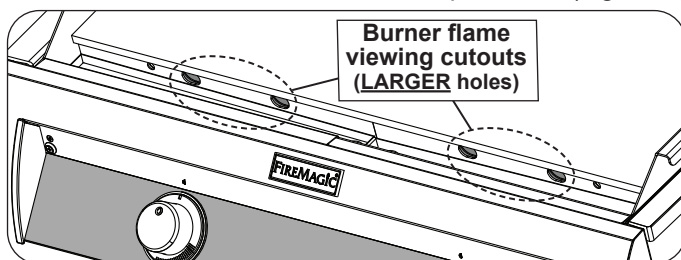

Fig. 37-2 Burner flame viewing cutouts
**Important:** Inspect the burner flames by looking through the burner flame viewing cutouts located above the drip collector trough. Adjust viewing position if needed to ensure flame presence. (Fig. 37-2).